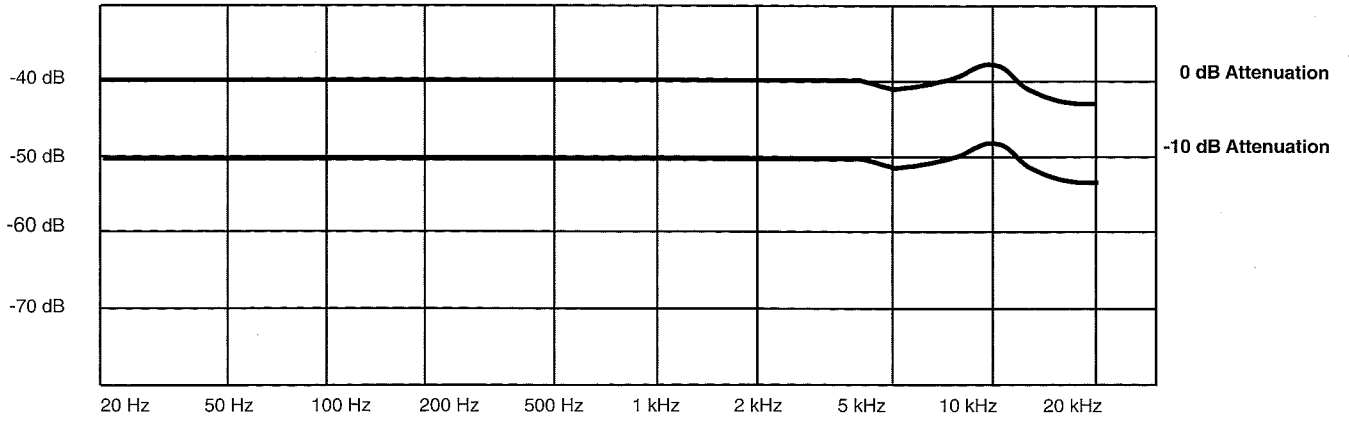

figure 1. Frequency Response
**Frequency Response:** *(see figure 1)*